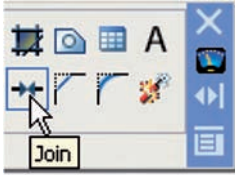

Fig. 5.37 The **Join** tool icon from the **2D Draw control panel**
2. Call the **Join** tool – either *click* the **Join** tool icon in the **2D Draw control panel** (Fig. 5.37), or *left-click* its tool icon in the **Modify toolbar**, or *enter* **join** or **j** at the command line. The command line shows: